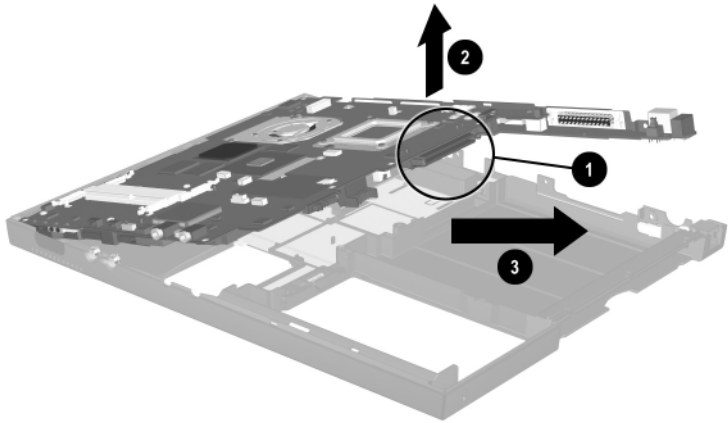

Figure 5-26. Removing the System Board
8. Use the Media Bay connector ❶ to lift the right side of the system board ❷ until it rests at a 45-degree angle (Figure 5-26).
9. Slide the system board out of the base enclosure at a 45-degree angle ❸.